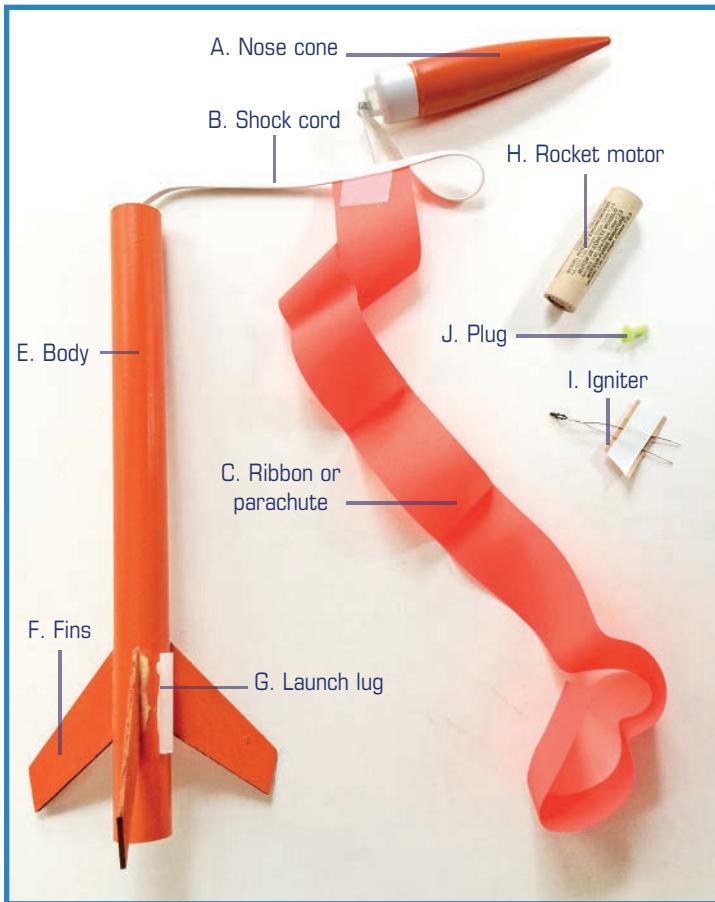

FIGURE 5.3 Though often rather small, a model rocket packs a lot of parts.
Let's go over the anatomy of a typical model rocket, following along with Figure 5.3:
- D. Recovery wadding**—This fire-resistant wadding protects the parachute from the secondary charge (not shown in Figure 5.3).